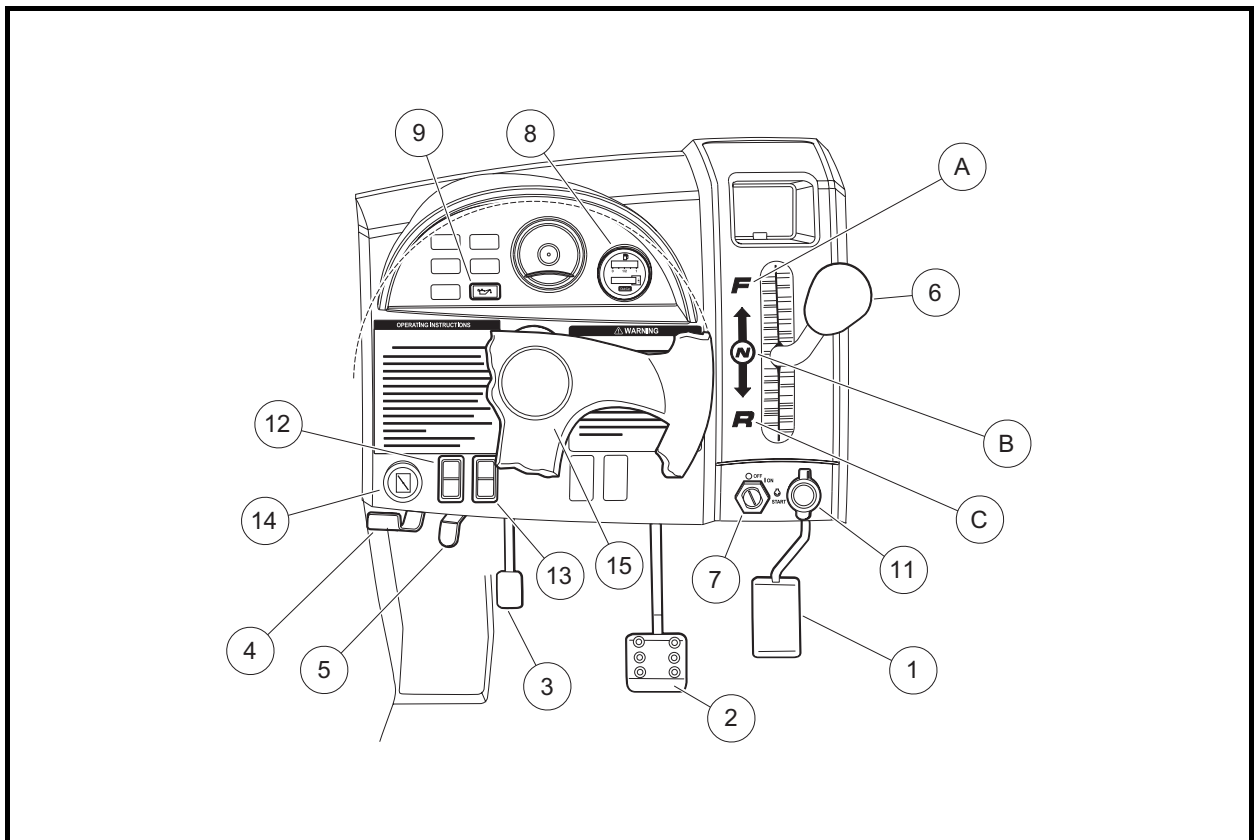
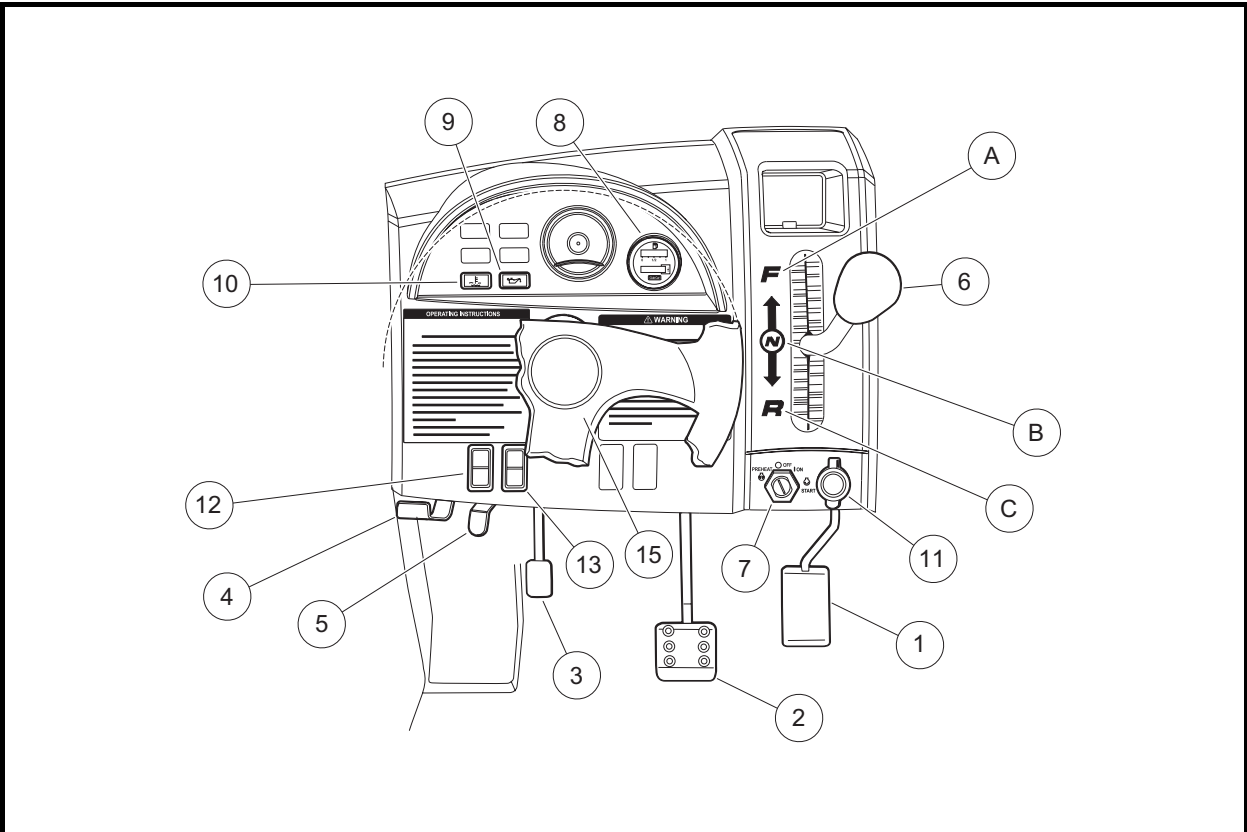
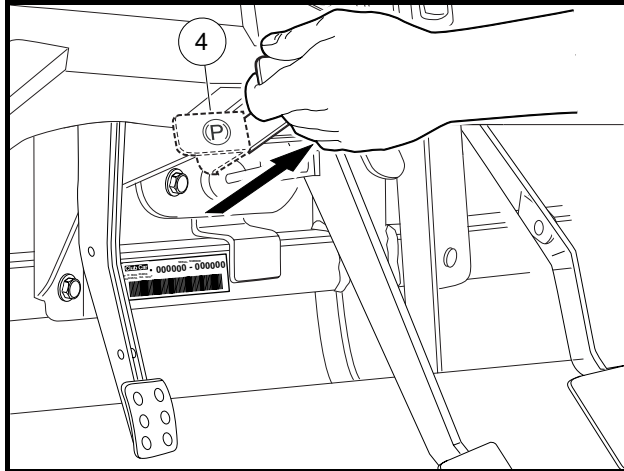

Figure 4 Instrument Panel – Gasoline Vehicles
Figure 5 Instrument Panel – Diesel Vehicles
Figure 6 Park Brake Release
The key switch (7) is mounted on the instrument panel to the right of the steering column (**Figure 4, Page 12**). It has three positions: OFF, ON, and START.
The key switch (7) is mounted on the instrument panel to the right of the steering column (**Figure 5, Page 13**). It has four positions: PREHEAT, OFF, ON, and START.
The Forward/Reverse handle (6) is located on the right side of the instrument panel (**Figure 4 and Figure 5, Page 12**). The handle has three distinct positions: FORWARD (A), NEUTRAL (B), and REVERSE (C). Push the handle up to operate the vehicle in the forward direction, or pull the handle down to operate the vehicle in reverse. The engine can be started only when the handle is in the NEUTRAL (middle) position. The engine must be at idle before shifting the Forward/Reverse handle. **See WARNING and CAUTION on page 13.**
The accelerator pedal (1) is the pedal farthest to the right (**Figure 4 and Figure 5, Page 12**).
The brake pedal (2) is located to the immediate left of the accelerator pedal (**Figure 4 and Figure 5, Page 12**). To slow or stop the vehicle, press the brake pedal.
The park brake pedal (3) is located to the left of the brake pedal (**Figure 4 and Figure 5, Page 12**). To engage the park brake, first apply pressure to the brake pedal, then firmly press the park brake pedal until it latches into place. To disengage the park brake, pull the park brake release handle (4) (**Figure 6**). **See following WARNING.**
The steering wheel position is adjustable. To adjust the steering wheel position, press down on the steering adjustment lock lever (5), then move the steering wheel to the desired position (**Figure 4 and Figure 5, Page 13**). While holding the steering wheel in the desired position, pull up on the steering adjustment lock lever to firmly lock the steering column in position. **See following WARNING.**
The 12-volt accessory outlet (11) is located to the right of the key switch (**Figure 4 and Figure 5, Page 12**). It provides a constant 12VDC with the key switch in the ON or OFF position. **See following NOTE.**
The low oil warning light (9) is located on the instrument panel just to the left of the steering column (**Figure 4 and Figure 5, Page 12**). If the warning light lights up, oil should be checked and added to the engine as necessary before vehicle use continues. The vehicle should never be driven when the low oil warning light remains lit. If the warning light alternately lights and darkens, the vehicle may be driven, but oil should be added at the first opportunity. If the oil level is correct and the warning light remains lit, have a trained technician check the vehicle. **See following CAUTION.**
The fuel gauge and hour meter (8) are housed together on the right side of the instrument panel (**Figure 4 and Figure 5, Page 12**). The fuel gauge operates when the key switch is in the ON position and allows the
The headlight control (12) is located on the left side of the instrument panel (**Figure 4 and Figure 5, Page 12**). Press the headlight rocker switch to turn the headlights on or off. **See following NOTE.**
The electric bed lift switch (13) is located on the instrument panel to the left of the key switch (**Figure 4 and Figure 5, Page 12**). **See following NOTE.**
The high-temperature warning light (10) is located on the instrument panel to the left of the steering column, next to the low oil warning light (9) (**Figure 5, Page 13**). The diesel engine is liquid-cooled; if the engine coolant has exceeded its normal safe operating temperature, the warning light will illuminate. If the warning light lights up, stop the vehicle and allow it to idle for approximately five minutes before stopping the engine. Contact the dealer/distributor or a trained technician. **See following WARNING.**